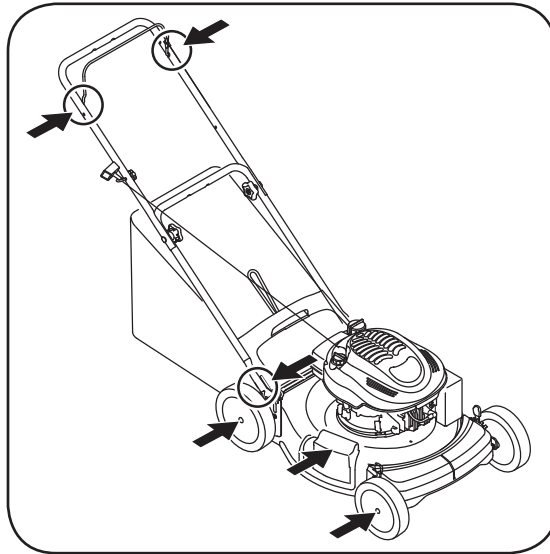

Figure 5-1: Areas of lubrication (model 435 shown)
- Lubricate pivot points on the blade control at least once a season with light oil. The blade control must operate freely in both directions, Figure 5-1.
- Lubricate the wheels at least once a season with light oil (or motor oil). If wheels are removed for any reason, lubricate surface of the pivot arm and inner surface of the wheel with light oil, Figure 5-1.
- Lubricate the torsion spring and pivot point on the rear discharge door and side mulch plug periodically with light oil to prevent rust, Figure 5-1.